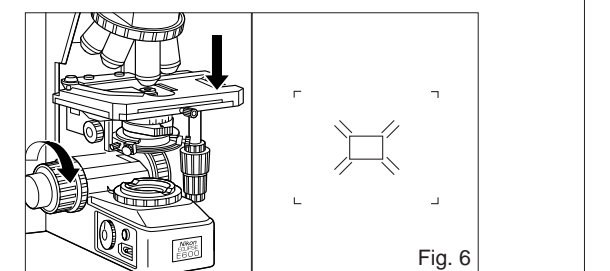
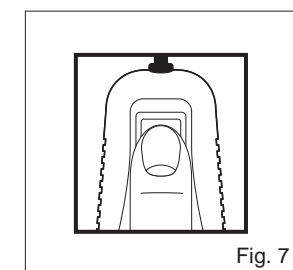

Fig. 6
Fig. 7
- (7) Focus on a specimen. (See III (5).) (See Fig. 6.)
- (8) Press the exposure switch.
Note: When an objective is changed, start with (4), or start with (5) if the specimen is changed. (See Fig. 7.)